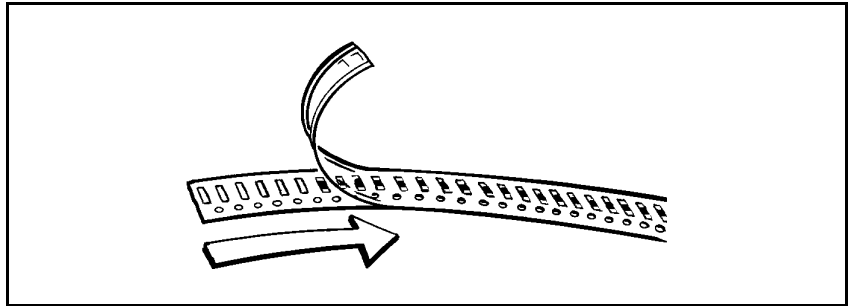

Figure 5-5. Stripping the cover tape.
1. Strip off the cover tape approximately 2–3 cm from the component tape. Make sure not to drop exposed components, see Figure 5-5.